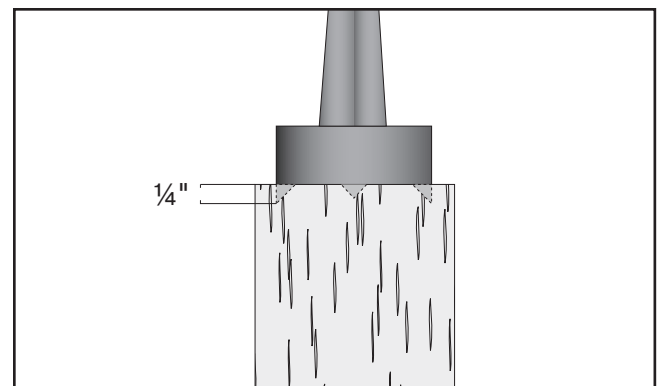

Figure 41. Spur center properly embedded.
6. Drive the spur center into the end center mark of the workpiece with a wood mallet to embed it at least $\frac{1}{4}$ " into the workpiece, as shown in **Figure 41**.